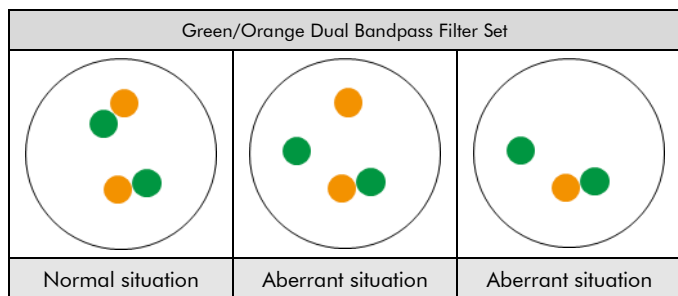

Fig. 2: Expected results in normal and aberrant interphase nuclei
**Normal situation:** In interphases of normal cells or cells without a translocation involving the ROS1 gene region, two green/orange fusion signals appear (see Fig. 2).
**Aberrant situation:** One ROS1 gene region affected by a translocation is indicated by one separate green signal and one separate orange signal. Isolated green signals are the result of deletions distal to the ROS1 breakpoint region or are due to unbalanced translocations affecting this chromosomal region (see Fig. 2).